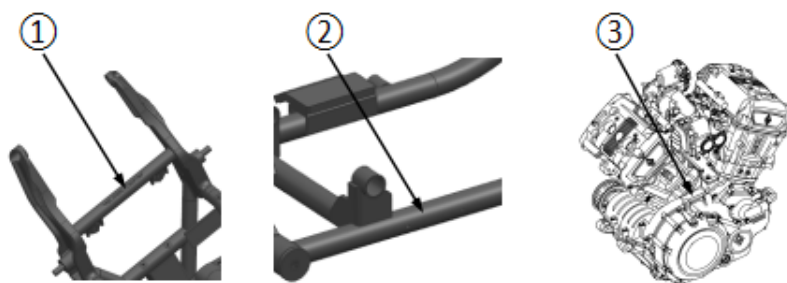

Fig 1 Nameplate,VIN,Location map of engine number
1.2. Number position (Fig1)
①. Frame number (VIN): rear frame rear, rear end center tube;
② Nameplate: middle of right frame, right engine cover
③ Engine number: right side of engine box;